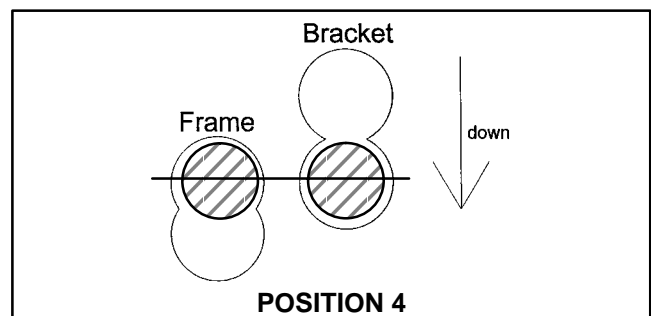

Figure 30
**Position 4:** The **most aggressive position** is used only on very firm greens or at the lowest height-of-cut (Fig. 30).